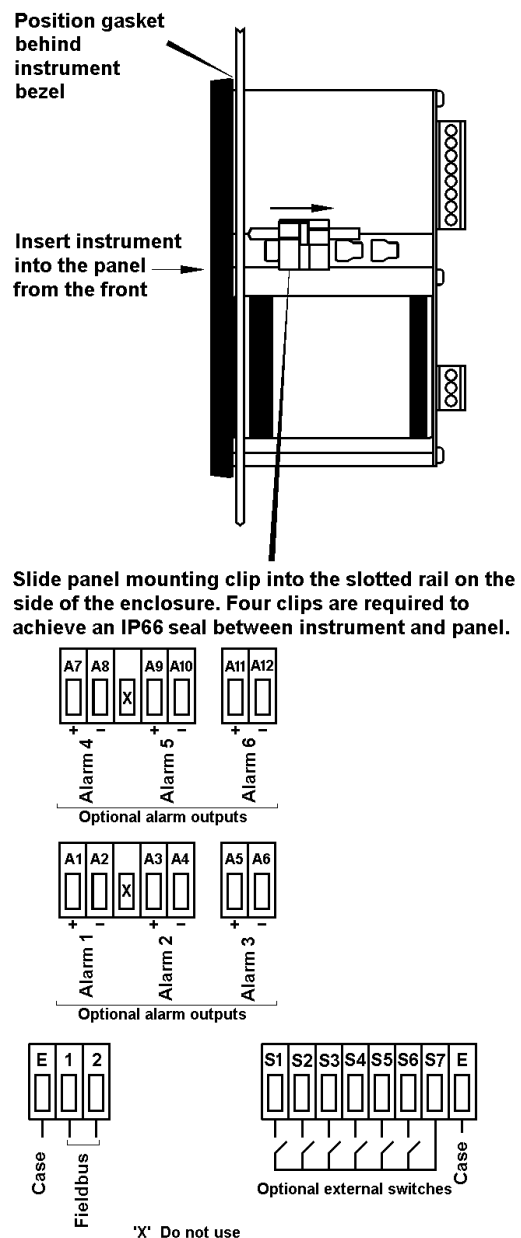

Fig 5 Installation and terminal connections
- Connect the panel wiring to the rear terminal block(s) as shown in Fig 5. To simplify installation, the terminals are removable so that panel wiring can be completed before the instrument is installed.